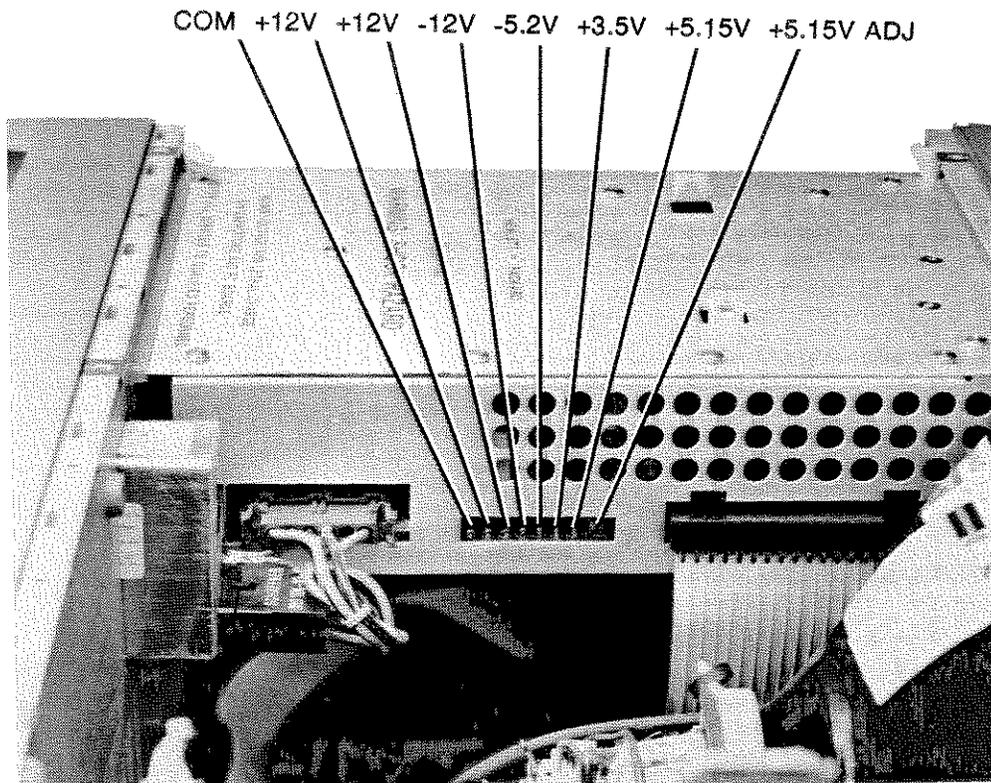

Figure 4-1. HP 54501A Power Supply Assembly Testpoints and Adjustment Location
This section provides adjustment and self calibration procedures for the HP 54501A. The assemblies with adjustments are: the power supply, CRT monitor, and the system board. Figures 4-1 and 4-2 are the testpoint and adjustment locations for the HP 54501A.
1. Disconnect power cord from HP 54501A. Refer to figure 4-1 for testpoint and adjustment locations.